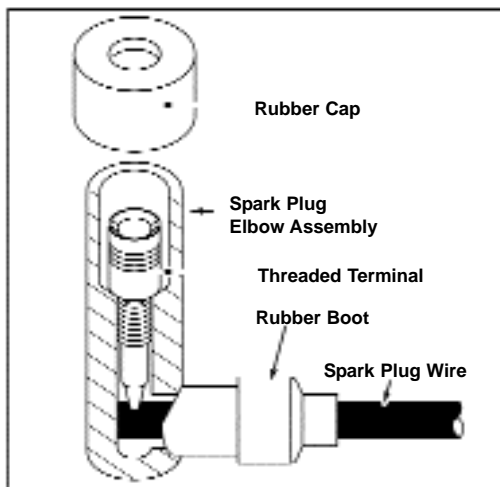

Figure 60 - Removing Spark Plug Elbow
3. Remove rubber cap. With a screwdriver, remove threaded terminal from elbow, Figure 60.